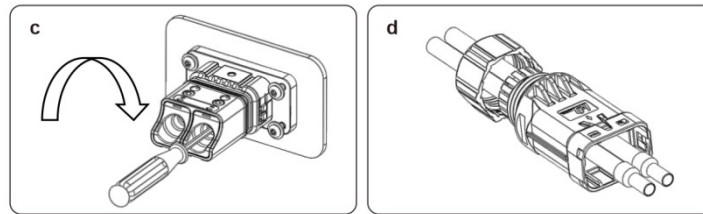

Fig. 4-24 Tighten connectors
Step4: Installing the communication harness: you will install the communication harness 1, communication harness2 respectively to the position in Figure 4-24, and at the same time, cut the ties of the communication harness on the left side of the cabinet and connect the harness to the battery